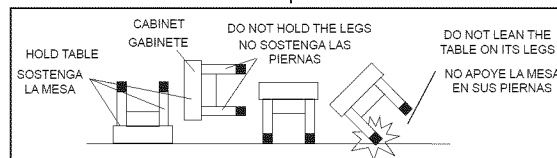

FIG 7:
- Attach the Control Box (#37) to End Apron with Opening (#4) using two Screws (#60). See Fig. 7